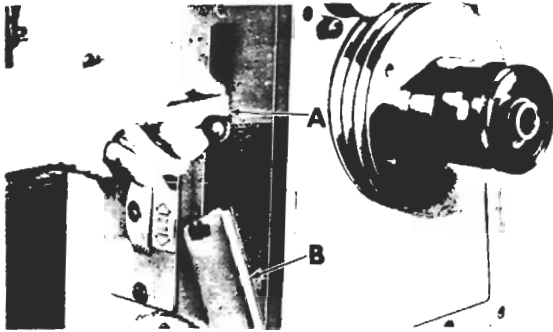
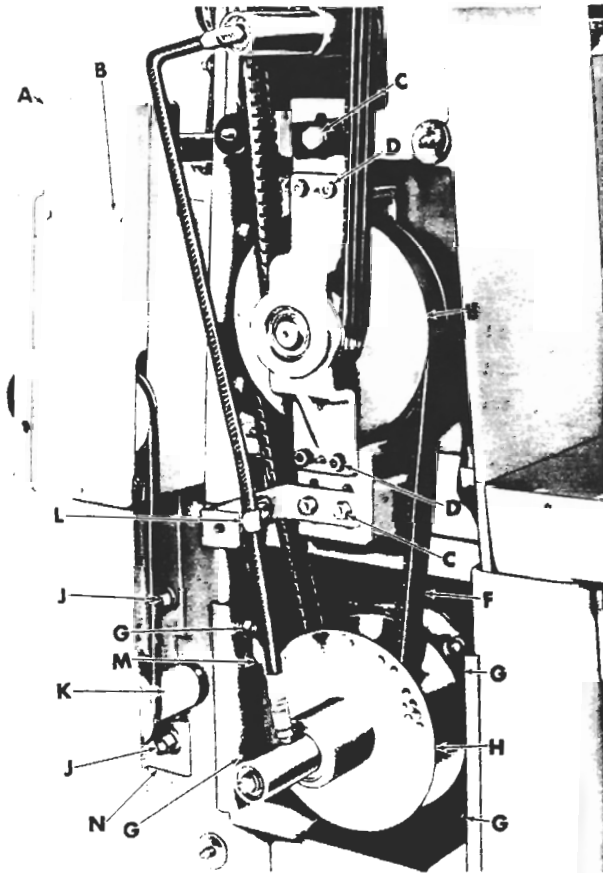

Figure 14
Figure 15
2. Remove cover (B, fig. 14).
4. Remove clamp holding hydraulic line (L, fig. 15).
5. Loosen three screws (C) holding countershaft assembly to column and remove spindle belts from spindle pulley. Spindle must turn freely.
7. Loosen set screw in bearing adjusting nut and tighten nut with spanner wrench (A, fig. 14) until spindle end play has been eliminated.
11. With a small lever (screw driver) force countershaft assembly downward, and tighten three screws (C).
12. Install clamp that holds hydraulic line (L).